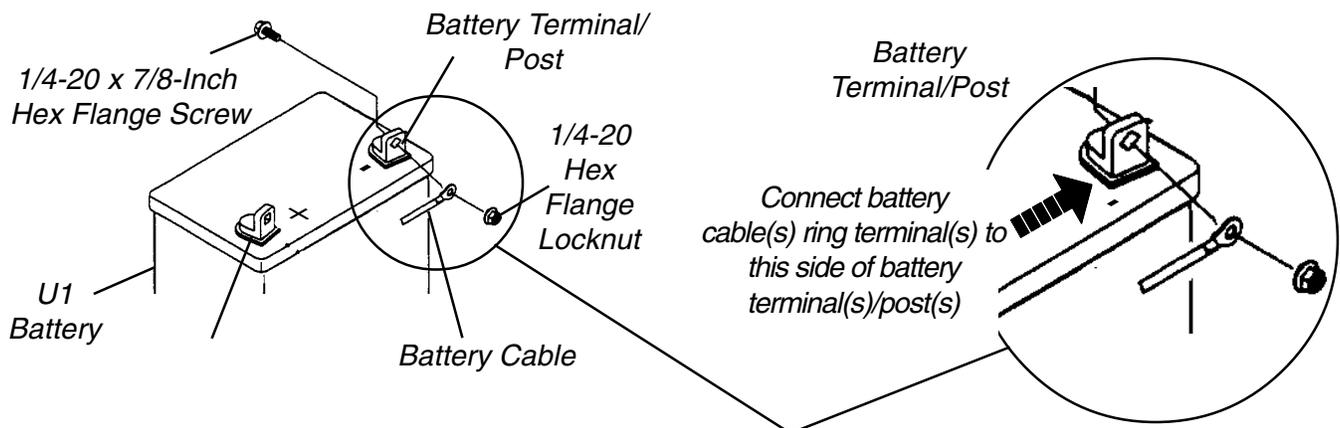

FIGURE 9 - CONNECTING BATTERY CABLE(S) TO BATTERY(IES)
SECTION F - CONNECTING BATTERY CABLE(S) TO BATTERY(IES) (FIGURE 9)
1. Connect battery cable(s) to battery(ies) terminal(s)/post(s) as shown in FIGURE 9.
When connecting the battery cables to the battery(ies), the battery cable(s) **MUST** be connected to the battery terminal(s)/post(s) as shown in FIGURE 9 (below), otherwise damage to the battery cable(s) may result when sliding battery terminal cap(s) down onto battery terminal/posts.